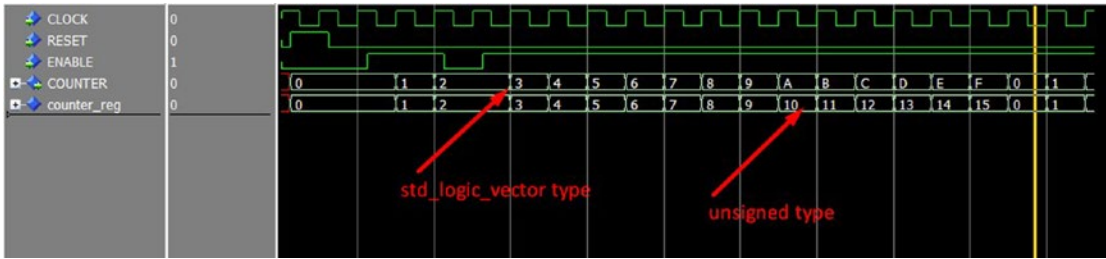

Figure 10-10. 4-bit counter simulation result
7. After step 6 (a-p), the ModelSim Wave window should show Figure 10-10 as the result. If both the COUNTER and counter_reg value did not show as Hexadecimal and unsigned number, then right-click on the waveform signal name. It will pop up a menu on the left-hand side ► Radix ► click the Radix you would like to show (like COUNTER use hexadecimal and counter_reg uses unsigned).